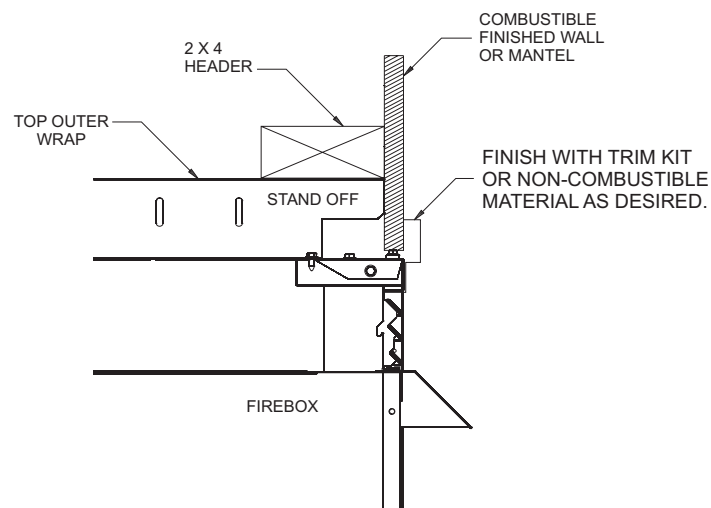

Figure 5
**Top Framing and Finishing:** Combustible framing may rest on top of standoffs. Combustible finishing materials may extend to the top standoff screws on the front edge of the top outer wrap. See Figure 5.
Framing can be built before or after the fireplace is set in place. Framing should be constructed to accommodate wall covering and fireplace facing material. The fireplace framing should be constructed of 2 x 4 lumber or heavier. The framing headers may rest on the top of the fireplace standoffs. Refer to **Figures 5 and 9** for framing dimensions.